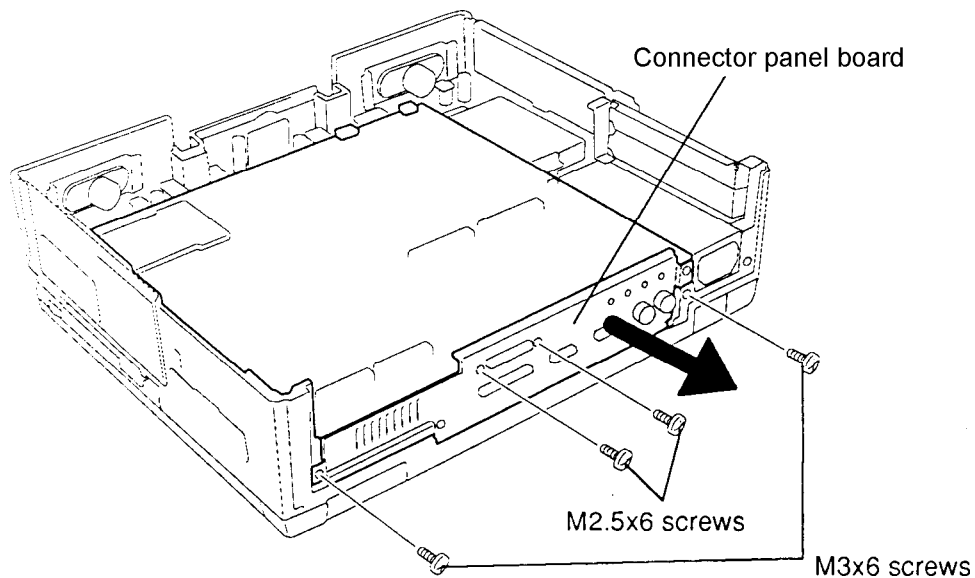

Figure 4-27 Removing the Connector Panel Board
To remove the computer's system board, follow the steps below and refer to Figures 4-27 through 4-29.
3. Remove the **two M3x6 screws** and **two M2.5x6 screws** from the **connector panel board** and take off the board (Figure 4-27).
To install the computer's system board, follow the steps below and refer to Figures 4-27 through 4-29.
5. Set the **connector panel board** in place and secure it with **two M3x6 screws** and **two M2.5x6 screws** (Figure 4-27).